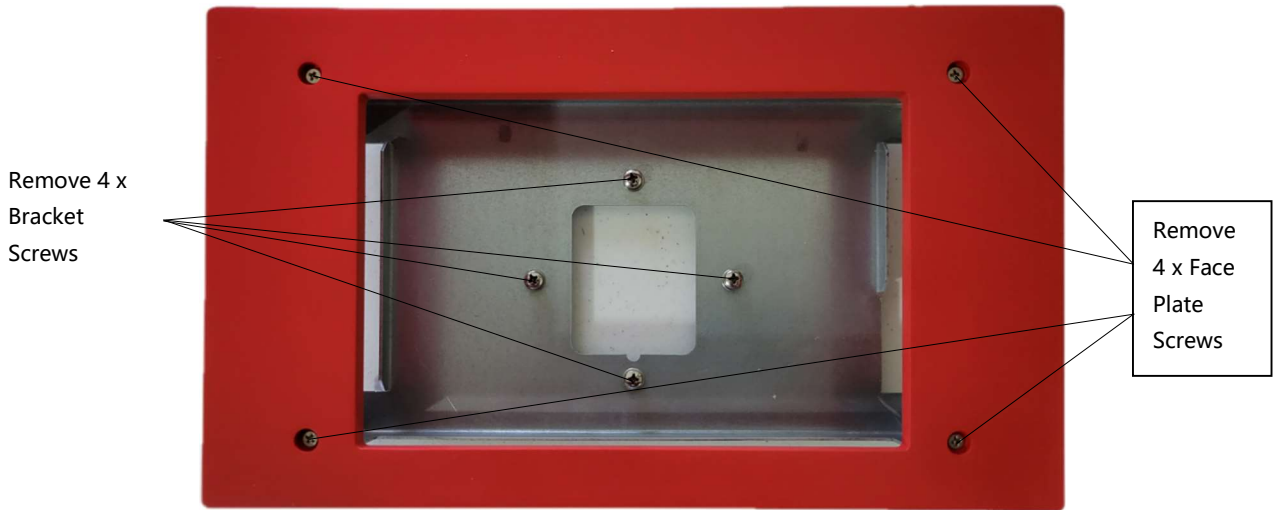

Figure 31: APV3-DAS - Flush Mount Kit Face Plate and Bracket Screw Removal
Follow the below instructions, Figures 31 through 234, to flush mount the APV3-DAS:
- Remove the (4) Philips head screws holding the faceplate to the mounting bracket. Do not discard screws as these will be used to reinstall the face plate. Remove the face plate.
- Remove the (4) screws that are attached to the mounting bracket from the factory. These screws will be used in the next step to attach the APV3-DAS standard mounting bracket to the flush mount bracket. See figure 31 below.